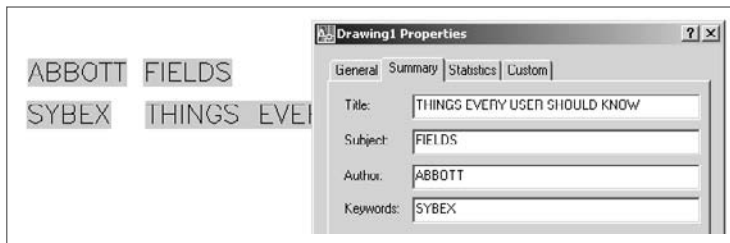

Figure 5.24
- You can create drawing properties (title, author, comments, keywords, or custom) from the File pull-down menu. Once you've defined custom properties, they're listed by the names you gave them in the list of possible fields. Change the properties, and they change in the field location (either in a table or anywhere else). (See Figure 5.24.)